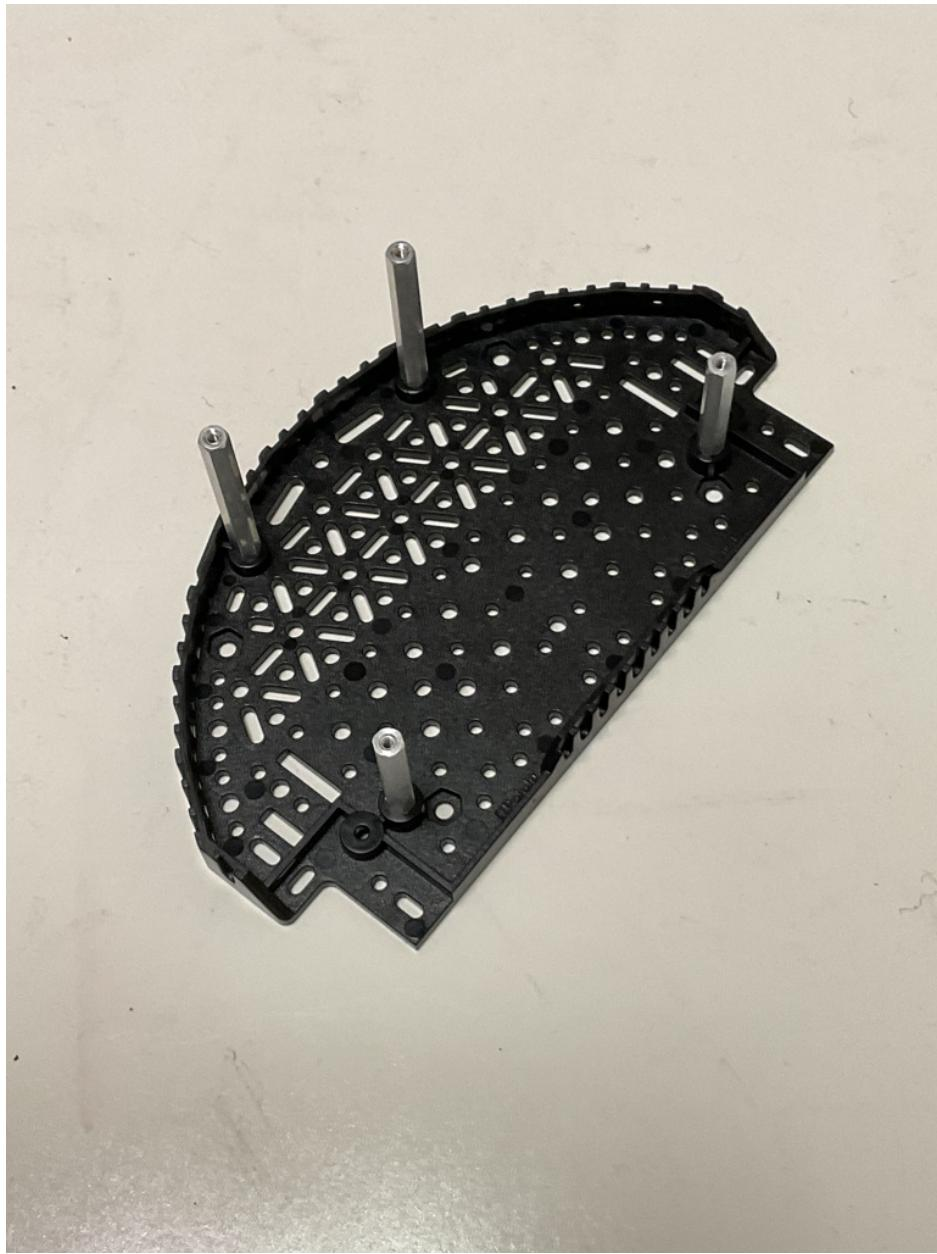

Figure 3: Expansion plate with standoffs installed.
1. Install the 1" and 1 1/2" standoffs on the expansion plate, as shown in Figure 3. Not every hole on the expansion plate lines up with a hole on the Romi base, so take care to put the standoffs in the holes shown. Test the alignment with the Romi base, but don't attach it yet – you'll want to attach the servo and arm mounts first.